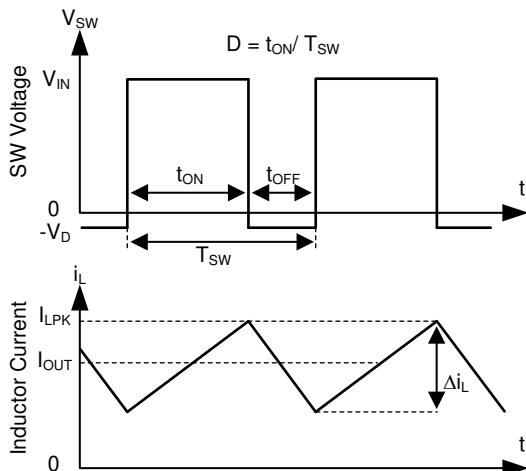

Figure 10-1. SW Node and Inductor Current Waveforms in Continuous Conduction Mode (CCM)
The following operating description of the TPS2584x-Q1 refers to the Functional Block Diagram and the waveforms in Figure 10-1. TPS2584x-Q1 is a step-down synchronous buck regulator with integrated high-side (HS) and low-side (LS) switches (synchronous rectifier). The TPS2584x-Q1 supplies a regulated output voltage by turning on the HS and LS NMOS switches with controlled duty cycle. During high-side switch ON time, the SW pin voltage swings up to approximately V_{IN} , and the inductor current i_L increase with linear slope $(V_{IN} - V_{OUT}) / L$. When the HS switch is turned off by the control logic, the LS switch is turned on after an anti-shoot-through dead time. Inductor current discharges through the LS switch with a slope of $-V_{OUT} / L$. The control parameter of a buck converter is defined as Duty Cycle $D = t_{ON} / T_{SW}$, where t_{ON} is the high-side switch ON time and T_{SW} is the switching period. The regulator control loop maintains a constant output voltage by adjusting the duty cycle D. In an ideal buck converter, where losses are ignored, D is proportional to the output voltage and inversely proportional to the input voltage: $D = V_{OUT} / V_{IN}$.